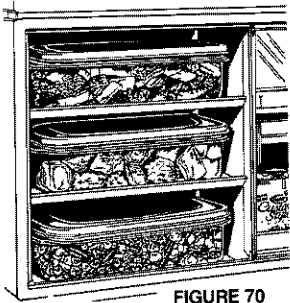

FIGURE 70
**Food Storage Containers.** Some models feature three durable left-over containers. See Figure 70. They store conveniently in this compartment and slide out for easy access. Containers are microwave\* and dishwasher safe. (Always place in the top rack of dishwasher).